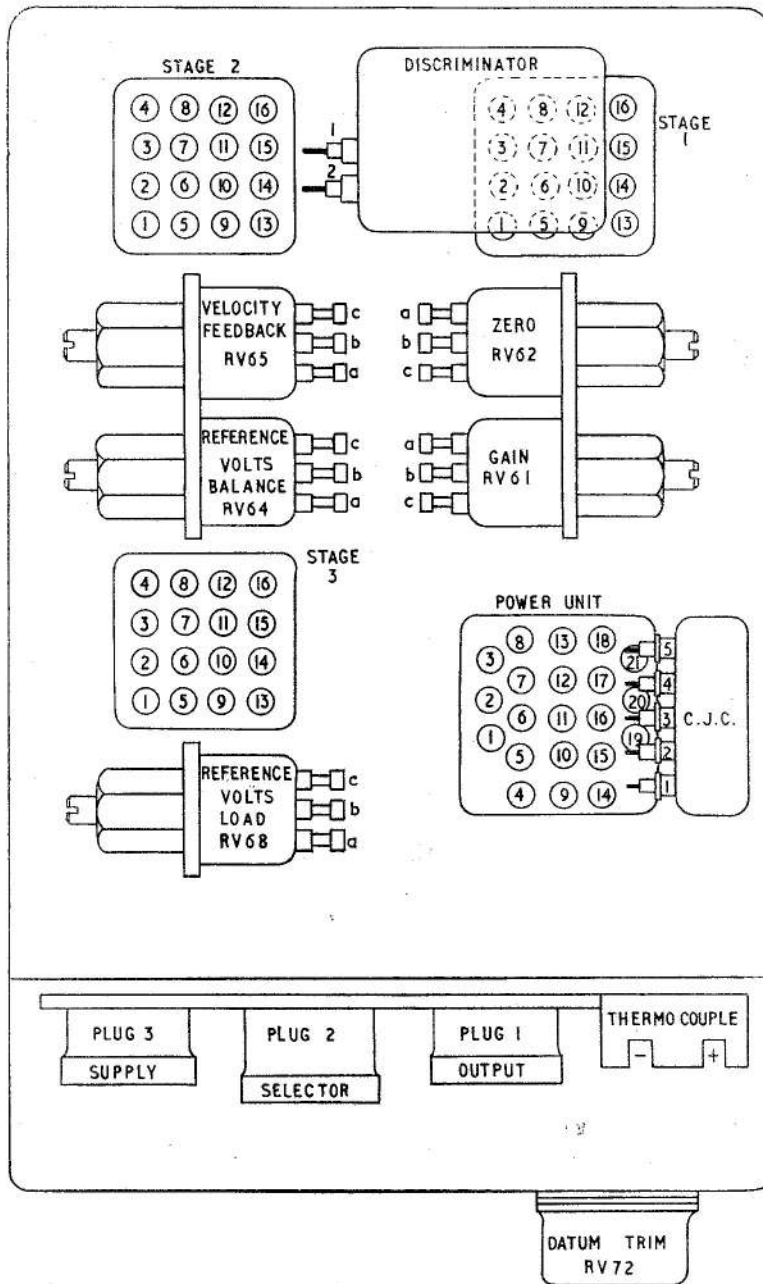

Fig 6. Layout of amplifier showing seal numbers
36. The equipment required for the aircraft test, using the Ultra QE2230 test equipment, is detailed below and is connected as shown in the test circuit (*fig. 6*).
46. Table 1 gives the values which should be obtained when measuring between certain seals and the function of the winding and/or resistor whose resistance or potential is being measured. Fig. 6 gives the layout of the amplifier and the seal numbers and should be referred to, in conjunction with Table 1, when these voltage and resistance measurements are being carried out.